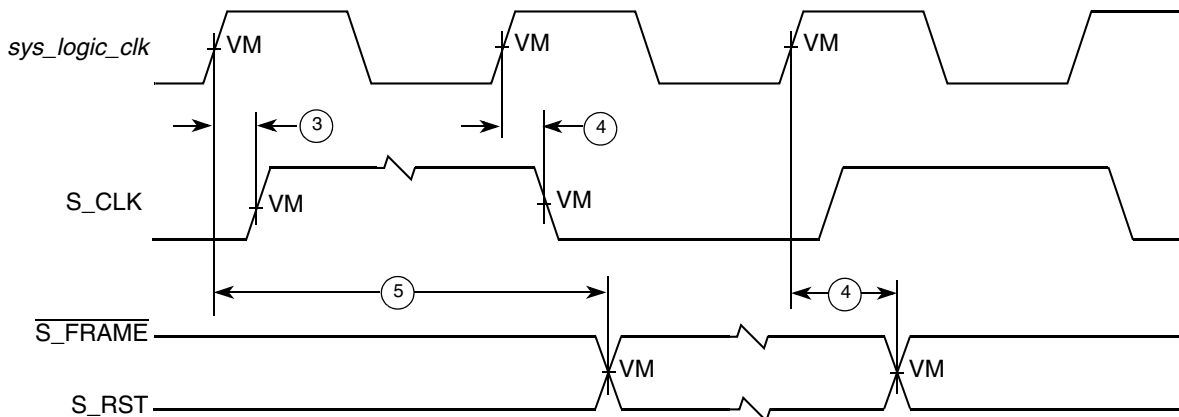
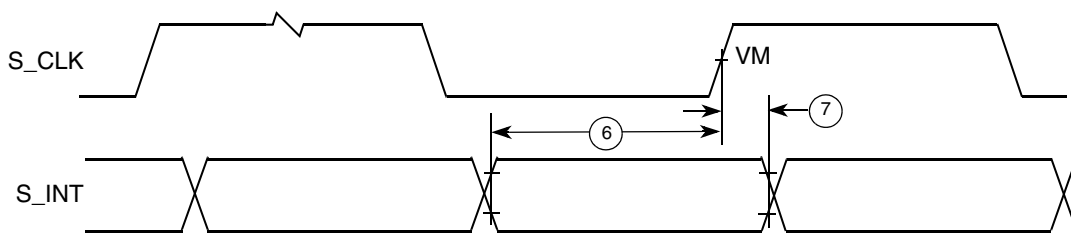

Figure 20. PIC Serial Interrupt Mode Output Timing Diagram
Figure 21. PIC Serial Interrupt Mode Input Timing Diagram
2. S_RST, $\overline{S_FRAME}$, and S_INT shown in Figure 20 and Figure 21, depict timing relationships to *sys_logic_clk* and S_CLK and do not describe functional relationships between S_RST, $\overline{S_FRAME}$, and S_INT. The *MPC8245 Integrated Processor Reference Manual* describes the functional relationships between these signals.